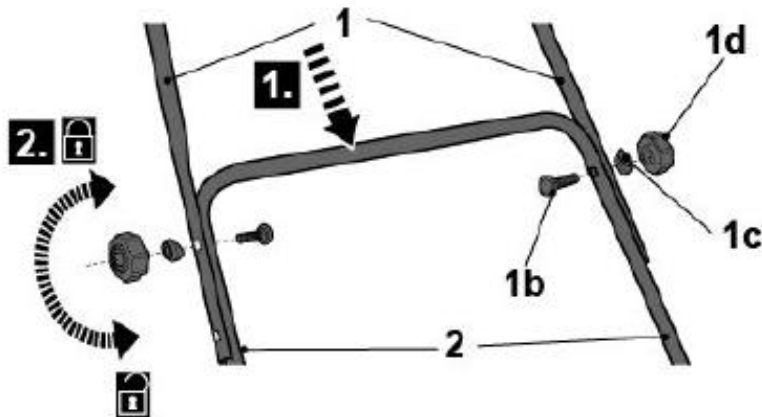

Fig. 3
Line up the holes and fix the top bar of the handle [1] on the bottom bar of the handle (2) (fig. 3, step 1).
Secure connection with bolts (1b), (1c) and washers (1d) button (fig. 3, stage 2 and 3).